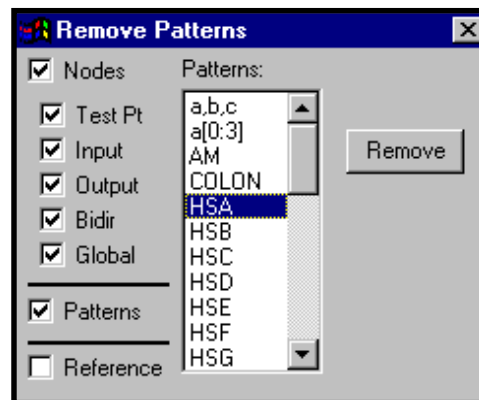

Figure 4-6. Remove Patterns Dialog Box
1. Select the **Edit** ⇒ **Remove** command. The Remove Patterns dialog box (Figure 4-6) is displayed.